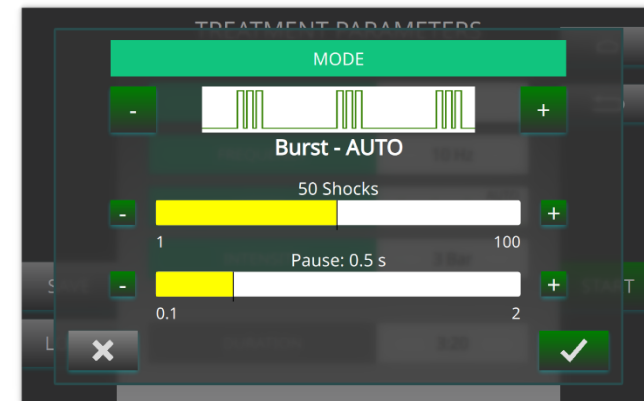

fig 6
- By selecting the BURST AUTO and BURST delivery modes, other modifiable parameters appear on the screen (figure 6): SHOCKS or the number of pulses that make up the burst (or pulse train) and PAUSE (ms) (only in BURST AUTO mode) or the pause between consecutive bursts.